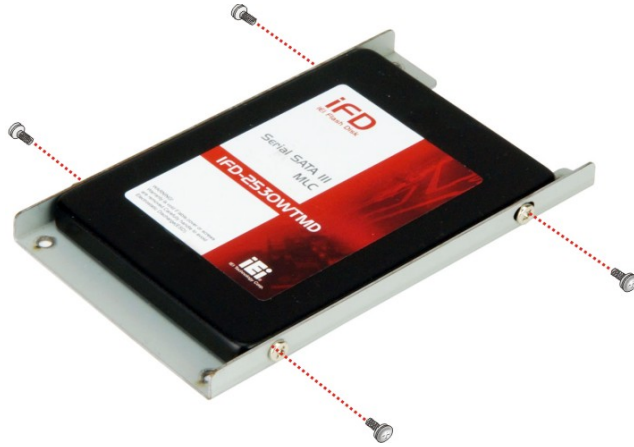

Figure 3-8: HDD Retention Screws
Step 3: Attach the HDD brackets to the HDD. To do this, align the four retention screw holes in the both sides of the HDD bracket with the retention screw holes on the sides of the HDD. Insert four retention screws (M3*4) into the HDD bracket (Figure 3-8).